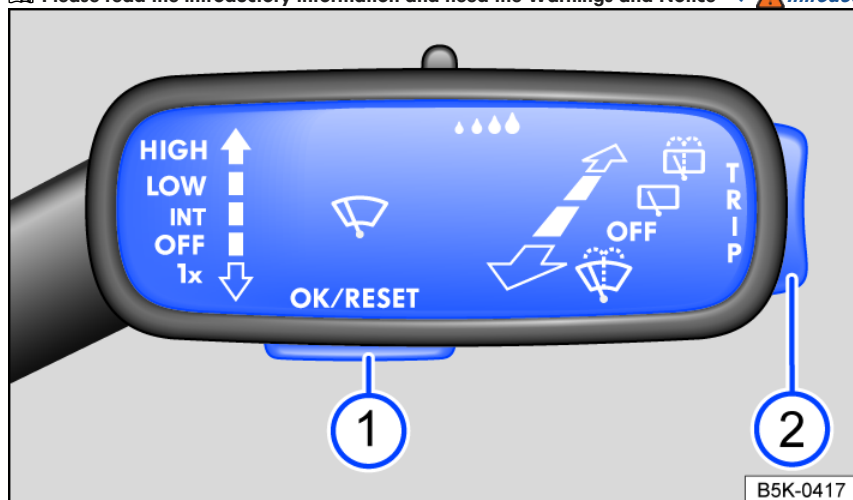

Fig. 16 On the right side of the steering column: buttons in the windshield wiper lever (general example)
Menus cannot be accessed when a priority 1 warning message is displayed. You can confirm and hide some warning messages using the fig. 16 button.
- If a message or vehicle icon is displayed, press the fig. 16 button, repeatedly if necessary.
- To display the menus $\Rightarrow$ Menus in the instrument cluster or to return to the menu selection from a menu or information display, press and hold the rocker switch fig. 16.
- To open the displayed menu or information display, press the fig. 16 button or wait until the menu or the information display opens automatically after several seconds.
- In the displayed menu, press the rocker switch fig. 16 upwards or downwards until the desired menu item is marked. The item is marked with a frame around it.
- Press the fig. 16 button to apply the desired changes. A checkmark indicates if the function or system is activated.